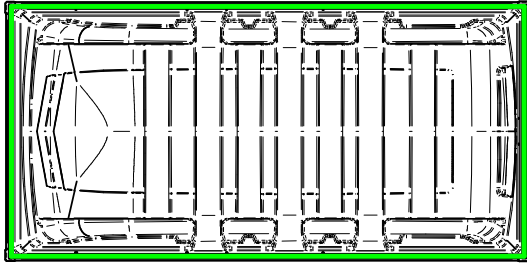

Figure 4
5. Clean the metal frame inside the cover and install the self-adhesive seal on the frame (figures 4 and 5). Do not stretch the seal during fastening!